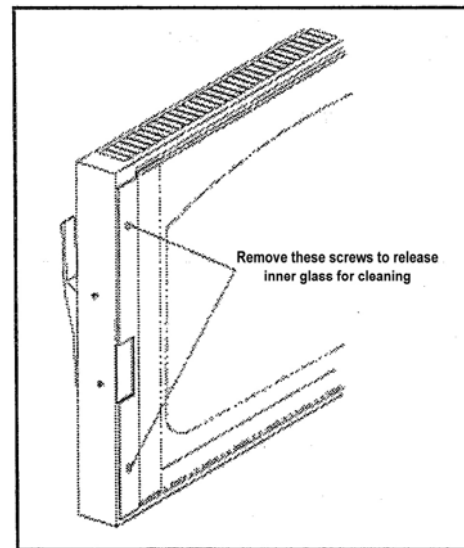

Figure 3-1. Removing the inner door glass (BX-4 only).
5. On the BX-4, open the inner door glass by removing two screws shown in Figure 3-1. The glass is hinged to allow a more thorough cleaning.